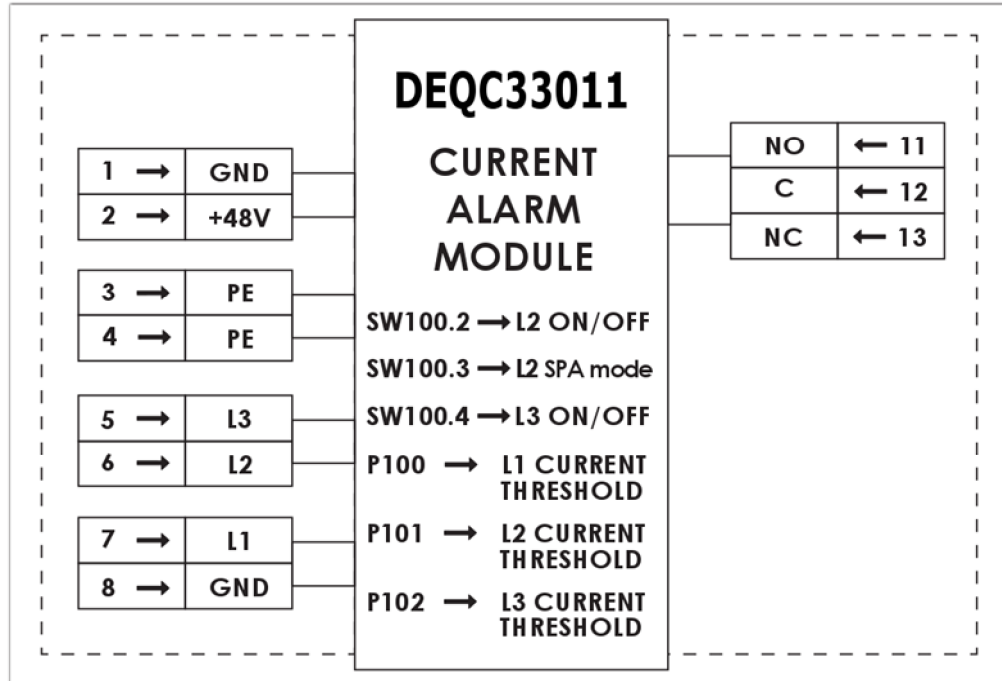

Figure 3: Connection and setting diagram
Moreover inside of the Lid there is a connection diagram (Figure 3).
- 9.4 Before making the connections to terminal output group, make sure that the wires supplying the light units are not energized by mistake, and not shorted at the other end - no short circuits on wire pairs "+48V" (terminals 5, 6, and 7) to "GND" (terminal 8). See figure 3.
- 10.2 Control elements: multi-turn variable resistors P100, P101 and P102 operable by a flat blade screwdriver with 2 x 0.4mm tip, are provided for adjusting the threshold for switching to the undercurrent alarm mode of each output channel (see Figure 3 for location). Each full turn of these resistors changes the threshold of the corresponding output circuit by approximately 10mA, increasing the threshold when turned clockwise, and decreasing the threshold when turned counterclockwise. Refer to 4.2 for undercurrent threshold range and default settings. It is also possible connect a 3-digit display board (code...) to read the current set (in mA) for each enabled light. Connect and disconnect the display board only when the DEQC33011 is de-energized.